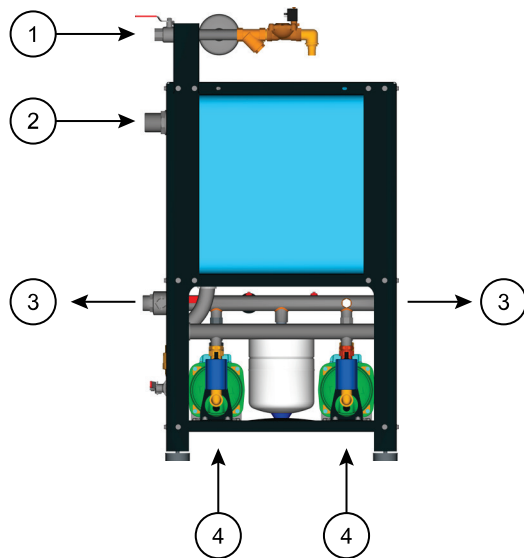

Fig. 3
Place the AQUATWIN TOP in a well ventilated place, protected from unfavorable weather conditions, and with an environment temperature not higher than 40°C, on an even surface; if this is not possible, use the adjustable vibration-damping feet (ref.1 Fig.1). After having positioned and stabilized the AQUATWIN TOP, make the connection to the water mains with a 1" pipe connected to the interception valve provided (ref.1.fig.3).
Connect the intakes (ref.4. fig.3) to the pipes arriving from the rain water storage tanks, paying particular attention that they are inclined towards the tank to avoid the formation of air pockets (avoid swan necks, the pipes must never pass over the pumps), avoid letting the pipes exert forces on the intake mouths. Install the system as close as possible to the rain water collection tank, to ensure a good yield of the pump it must never exceed a suction length of 20 meters and a height of 3 meters. If the suction length and height are greater, use another pump connected in series to the system pump to overcome the system suction problem.
Connect the overflow with a 2" pipe (ref.2 fig.3), this pipe must be directed towards a drain to avoid flooding in the event of malfunction or overflowing of the system.